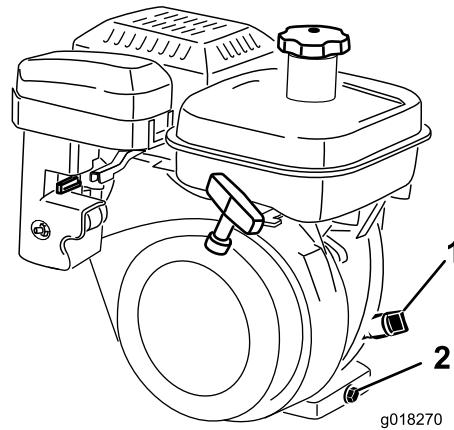

Figure 31
2. Position the mower so the engine is level and clean around the oil level gauge (Figure 31).
3. Remove the oil level gauge by rotating it counterclockwise (Figure 31).
4. Wipe the oil level gauge clean and insert it into the filler port. Do not screw the gauge into the port. Then remove and check the level of the oil. If the level is low, add only enough oil to raise the level until it is between the H and L marks on the gauge (Figure 31). Check the level of the oil. Do not overfill.
2. At the rear of the machine, place a drain pan under the drain plug (Figure 31). Loosen the drain plug.